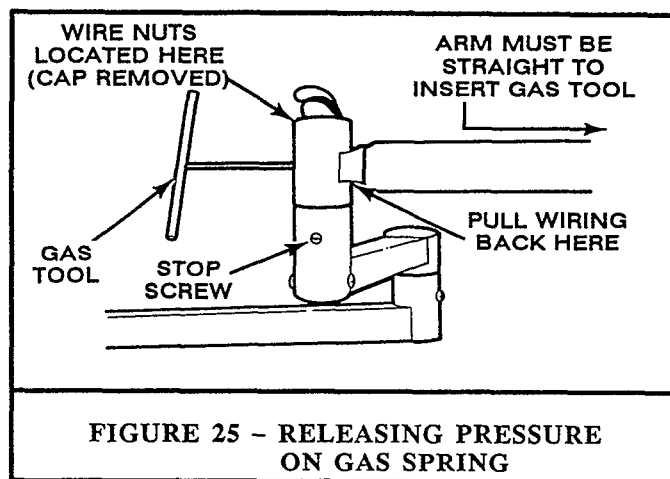

FIGURE 25 - RELEASING PRESSURE ON GAS SPRING
B. Pop out cap, locate and remove two wire nuts (Figure 25). Pull out wiring as indicated.
C. Straighten arm as in Figure 25, and insert gas tool through hole to engage gas spring. Turn counterclockwise until arm tension is relieved (pressure is released), plus four extra turns.
- Remove cap from top of rear knuckle (Figure 25). Remove two wire nuts attached to two wires coming from front arm.
- Remove the stop screw from the rear arm joint (Figure 25). Lift the front arm out of the rear arm.